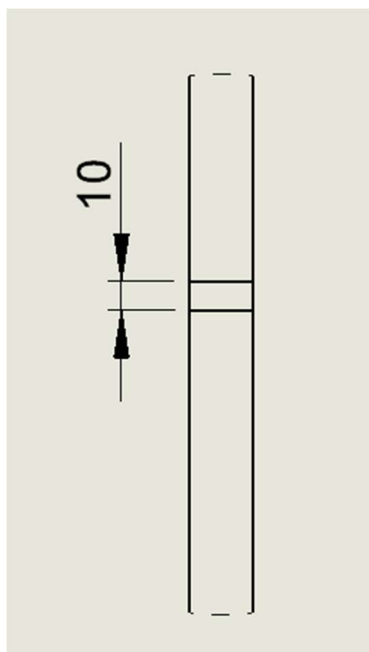
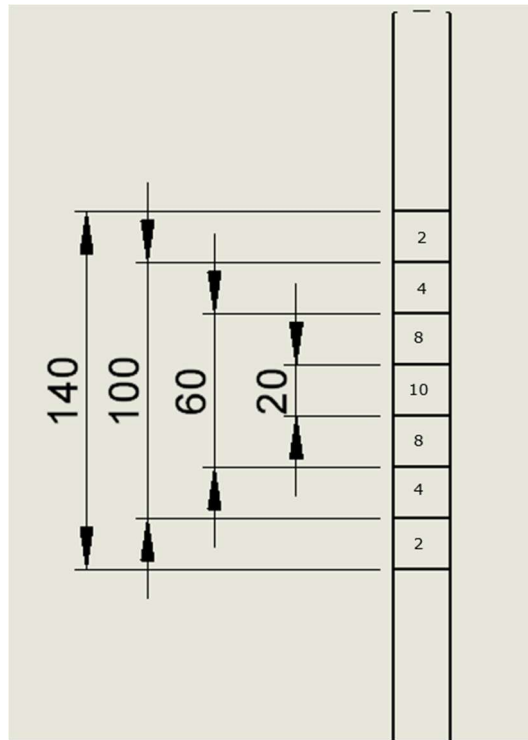
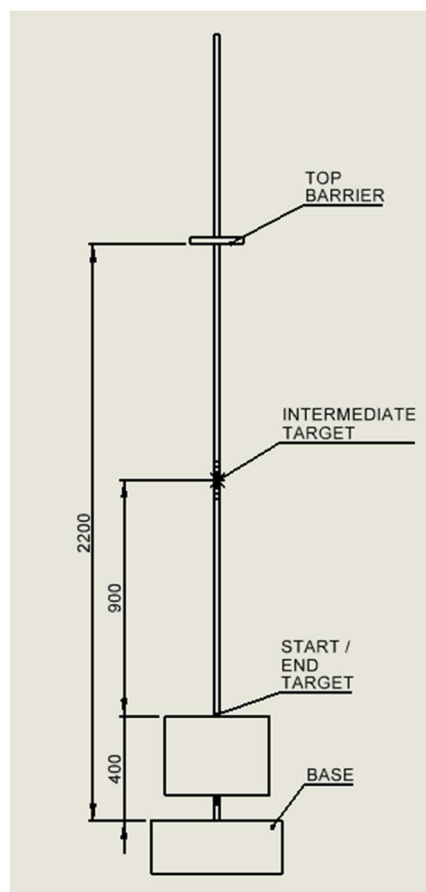
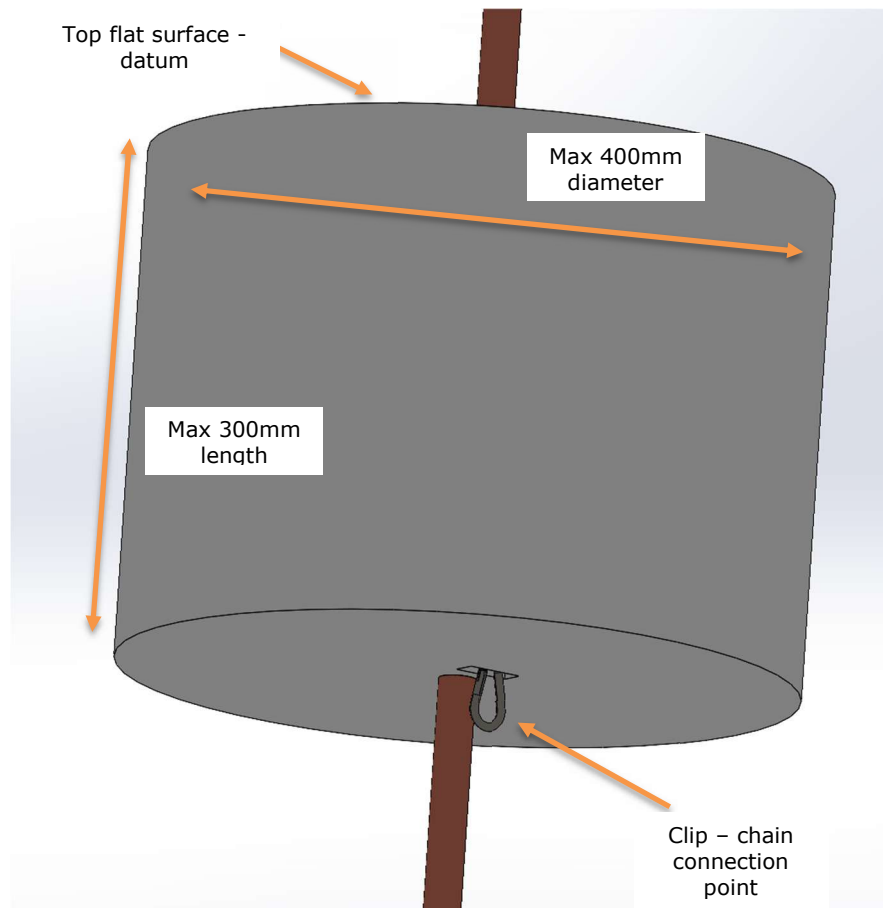

Figure 5 – Starting point – first target
Figure 6 – Intermediate reference / target zone
Figure 7 - Single pipe rig schematic – with dimensions
Figure 8 – Maximum envelope, pipe and standard connecting clip
- 4.1 The device can be of any type, but it must be completely self-contained and fit within a working envelope of 400mm diameter 300mm length maximum, excluding the automatic clip – see below *Figure 8*.
- 4.7 The device shall include a single 50mm automatic clip – carabineer similar to www.screwfix.com 334FE as attachment of the load chain. This shall be included in BoM and considered as part of the vehicle, for both mass and cost considerations. The clip can protrude outside the maximum envelope, see *Figure 8*.
The device shall have the top surface – datum aligned between the target lines, see *Figure 8*, *Figure 7* and *Figure 5*.
- 5.1 Position the device with the top datum surface between the starting target lines (*Figure 5*).
- 5.6 Between the intermediate target (*Figure 6*) and the starting point – first target (*Figure 5*) release the automatic clip (see 4.7) and the chain connected to it (see 4.8).
- 5.7 Progress movements towards the starting point – first target (*Figure 5*), time count is stopped at top surface passing it.
- 5.14 Bonus points for releasing chain after passing the intermediate target (*Figure 6*) and before reaching the starting point – first target (*Figure 5*): 10 points.
The device shall have the top surface – datum aligned between the target lines, *see Figure 8, Figure 7 and Figure 5.*
- 6.1 Position the device with the top datum surface between the starting target lines – *see Figure 5.*
- 6.17 Bonus points for releasing chain after leaving the starting point – first target (see *Figure 5*) and before reaching the intermediate target (see *Figure 6*): 10 points.
- 6.18 Bonus points for position over the intermediate target – see *Figure 6*;